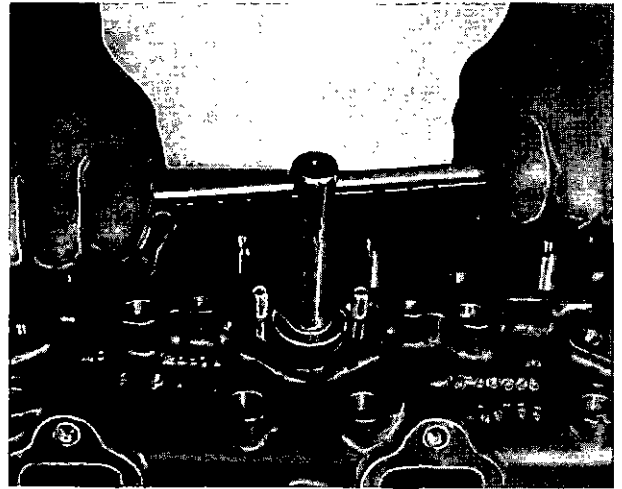

Fig. 15 Cutting injector seating
6. Reface the lower seating, using cutter GA.299 (fig. 15) well lubricated with cutting oil. Remove the minimum amount of metal required to obtain full seating, and take care to avoid 'chatter'.